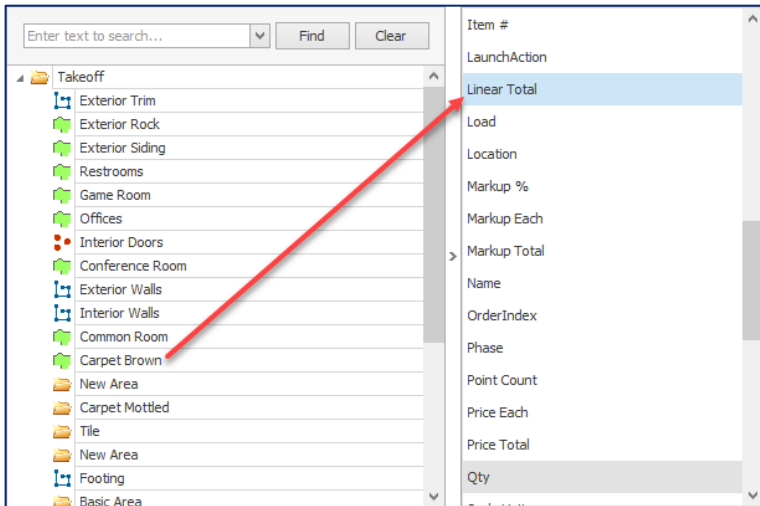

Figure 39-L
4. The result in the linked Excel spreadsheet cell **B7** is 367 linear feet (Fig. 39-M), which is the linear perimeter in feet of the 1710 square-foot **Carpet Brown** takeoff area (shown in cell **B6** of Fig. 39-M). Thus, without having to perform the takeoff twice (once for the carpet area and once for the perimeter of the room, one takeoff can perform both area and perimeter properties.